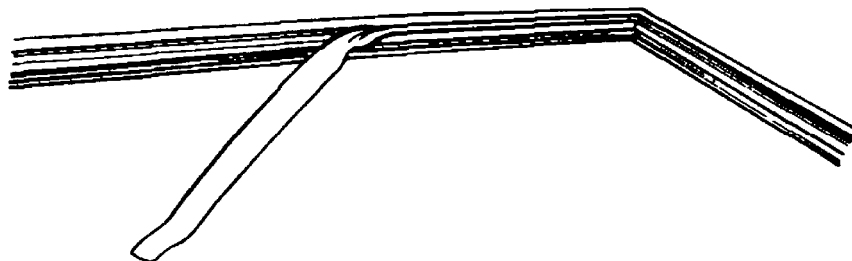

Figure 192 Sidescreen Seal Installation
- v. Install the correct infill along the sidescreen channels and ensure that it is fitted centrally (Figure 192).